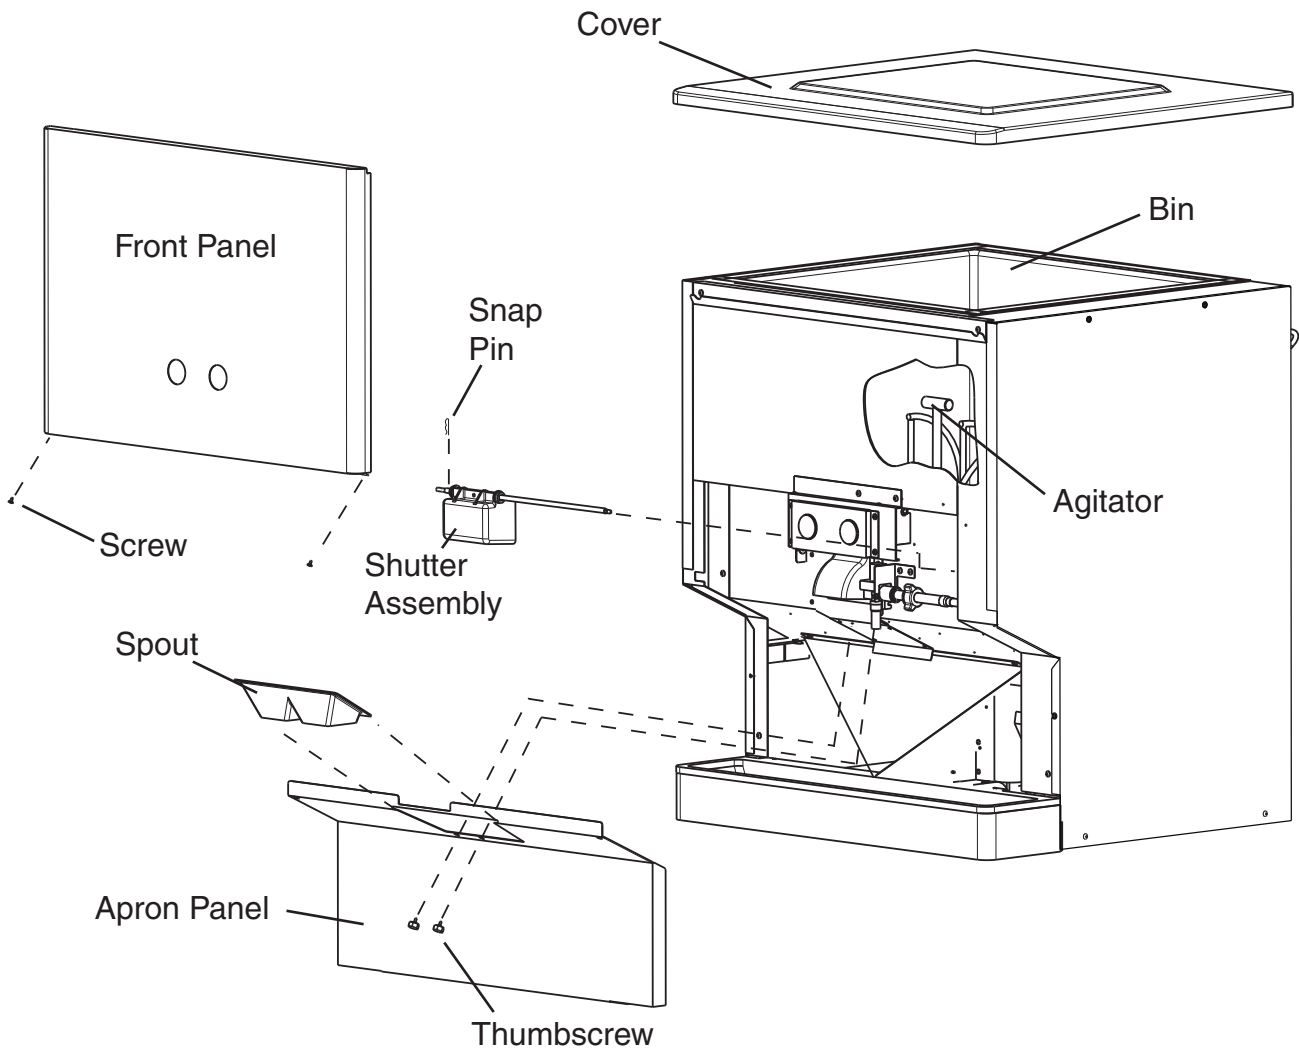

Fig. 1
- 4) Remove the front panel. See Fig. 1.